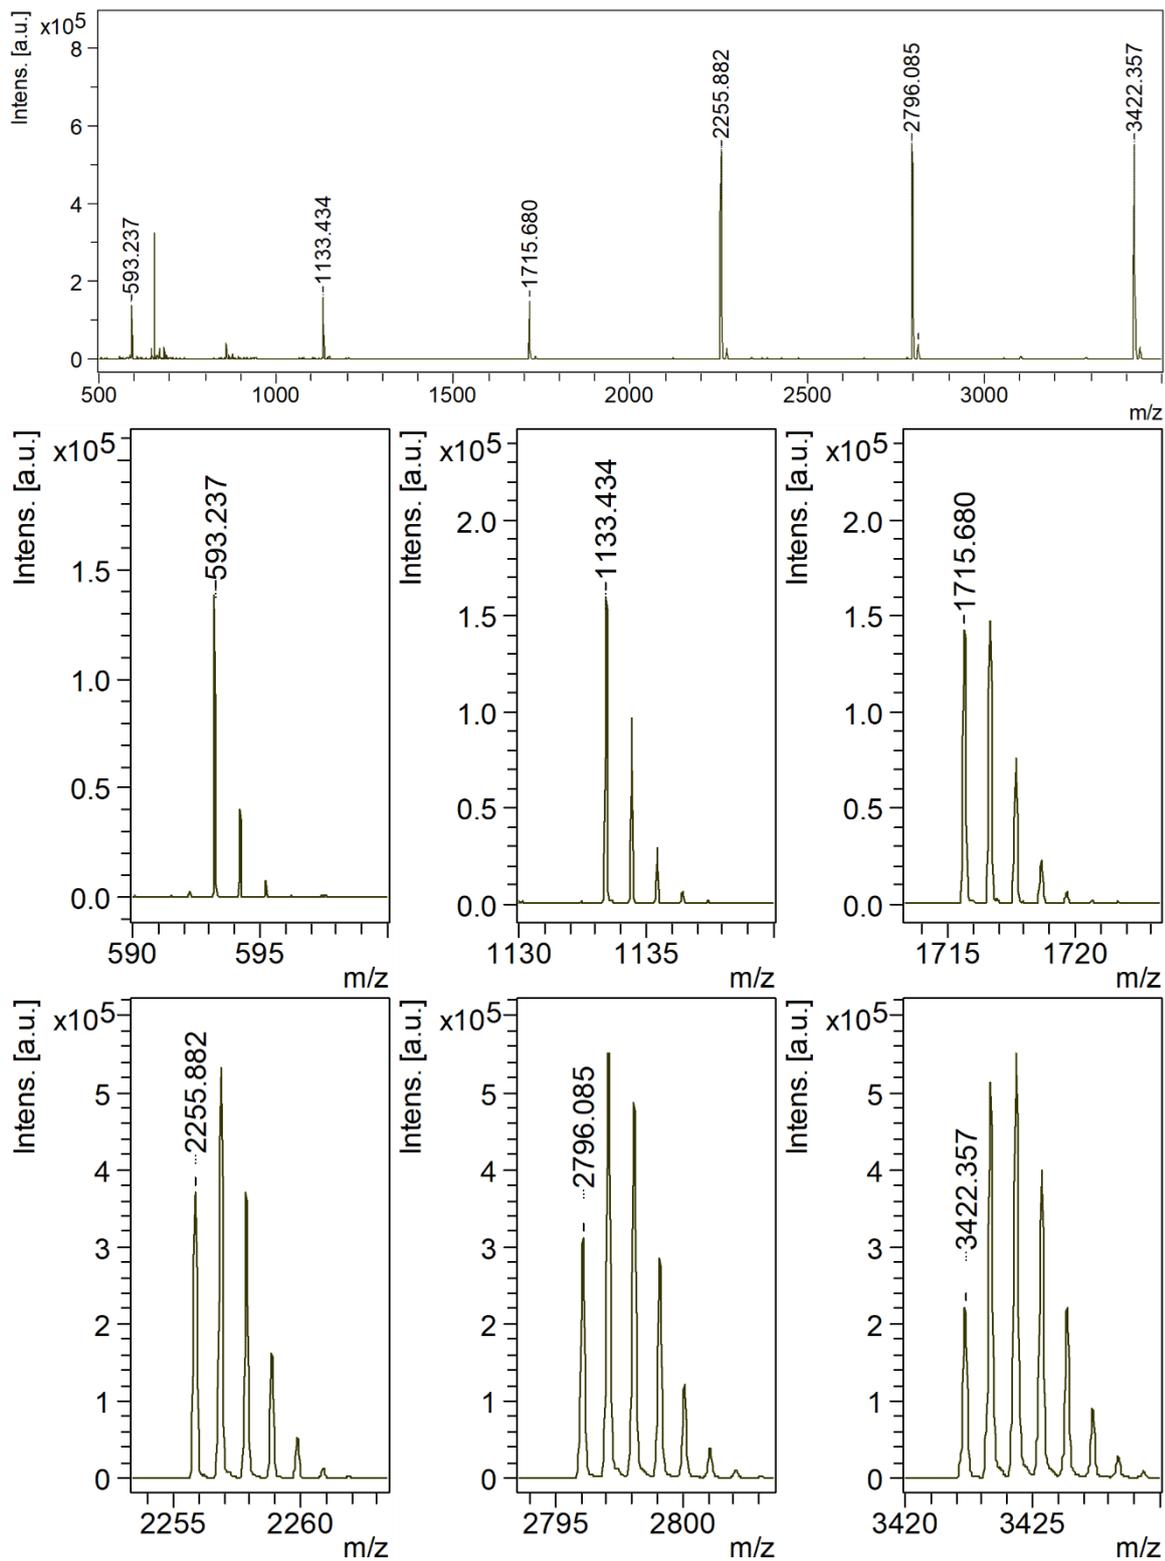

Figure 2. MALDI spectrum of PFS-0002 obtained with HCCA as matrix.
- 8) Measure the MALDI spectrum of a calibration spot, ensure good signal to noise spectra. Compare your collected spectrum with *Figure 2*. Intensities and intensity ratios of the 6 components will vary, depending on the matrix used and the tuning of your instrument.
- 9) Within the calibration tab of your software, choose the *SpheriCal® Peptide Medium* mass list and click "automatic assignment". The software should automatically assign the peaks. Click through the assignments and ensure that the software has chosen a good peak position (cf. *Figure 2*, bottom). With the available 6 calibration points, you can use advanced algorithms such as *cubic enhanced*. Click *calibrate* to perform your calibration.